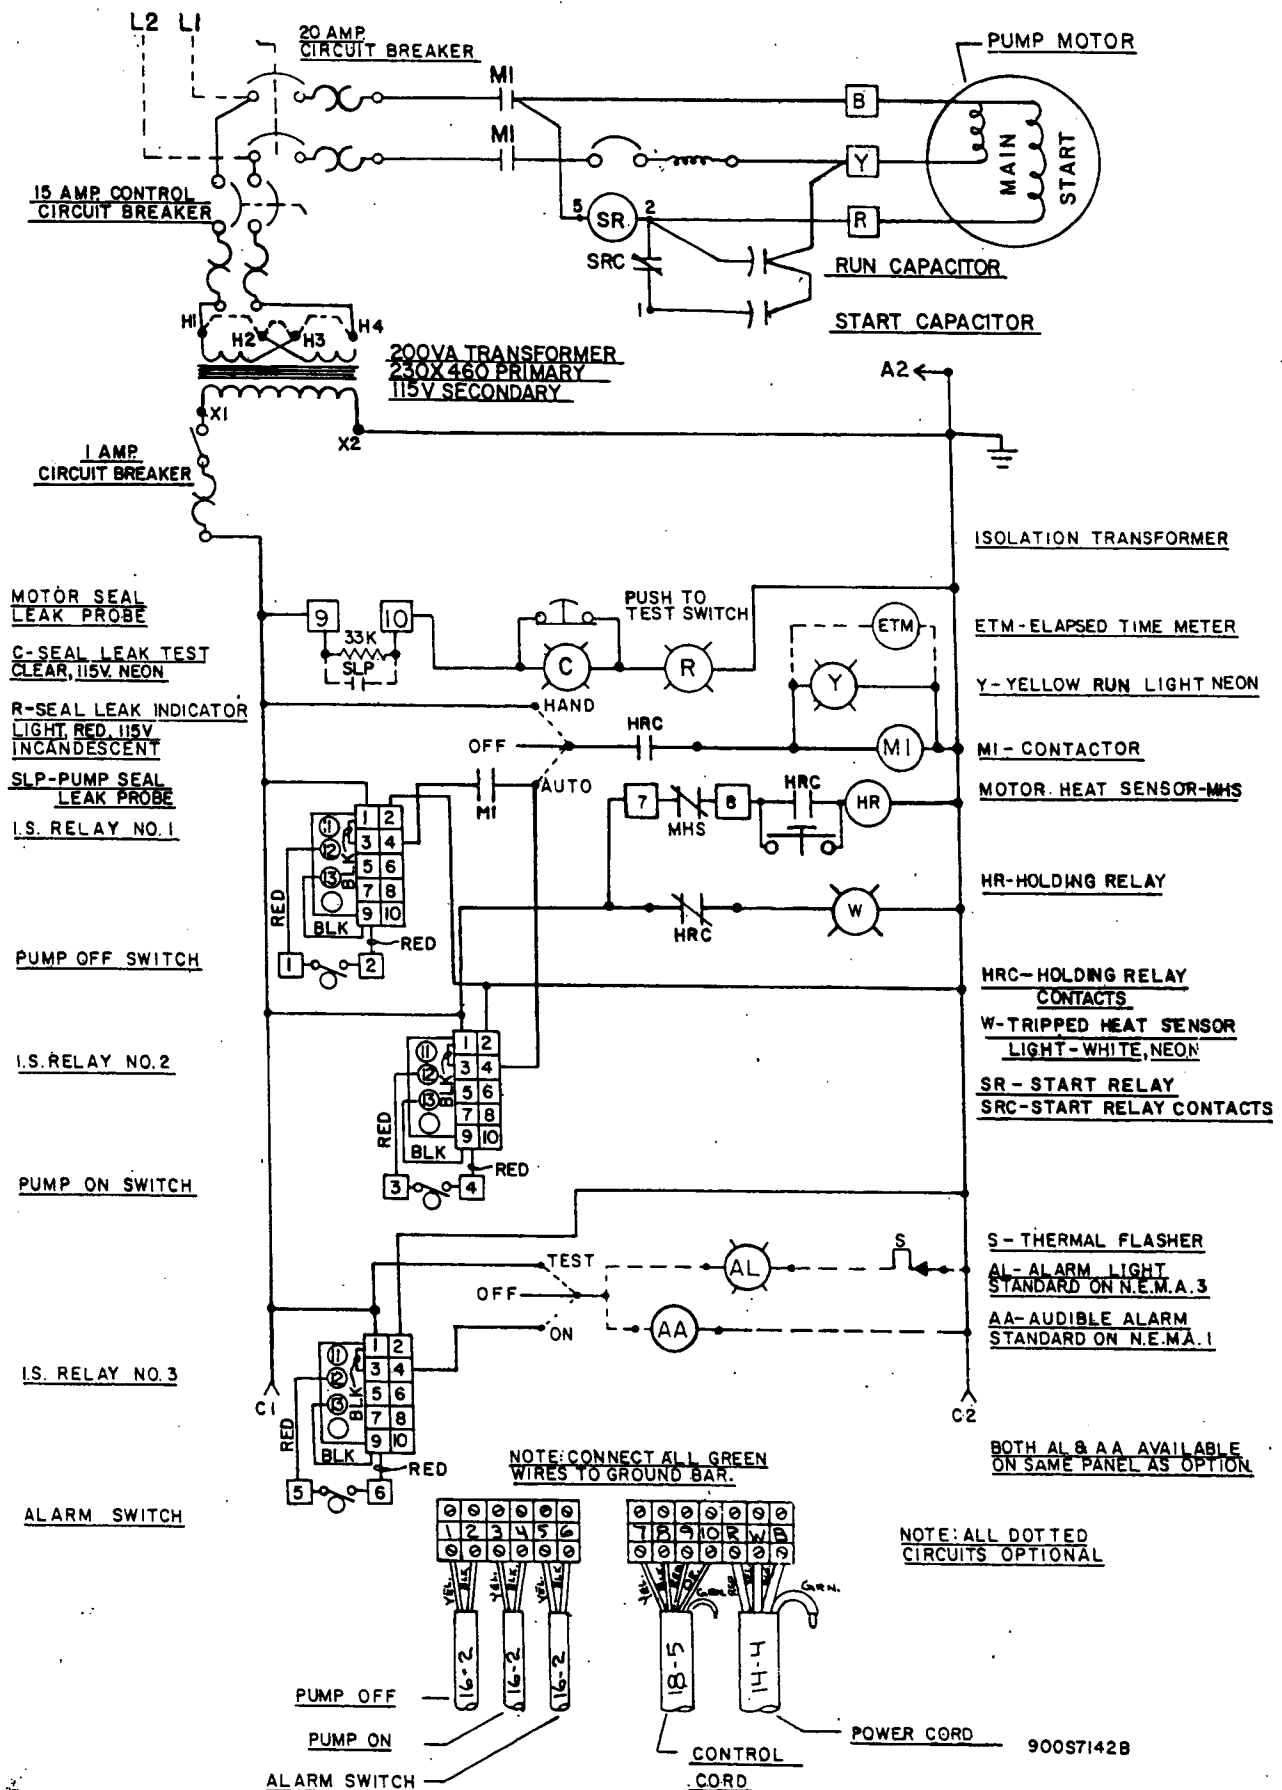

FIG. 2
Complete wiring diagrams Figs. 2, 3, 4, 5 show how heat sensor is connected for both single
Connection diagrams for the seal failure probes are shown on Figs. 2, 3, 4, 5.
**SINGLE PHASE CONTROLS** — Single phase motors are of the capacitor start, capacitor run type so proper start and run capacitors and start relay must be used in the control box. Wiring diagrams Figs. 2 and 3 show proper connections.